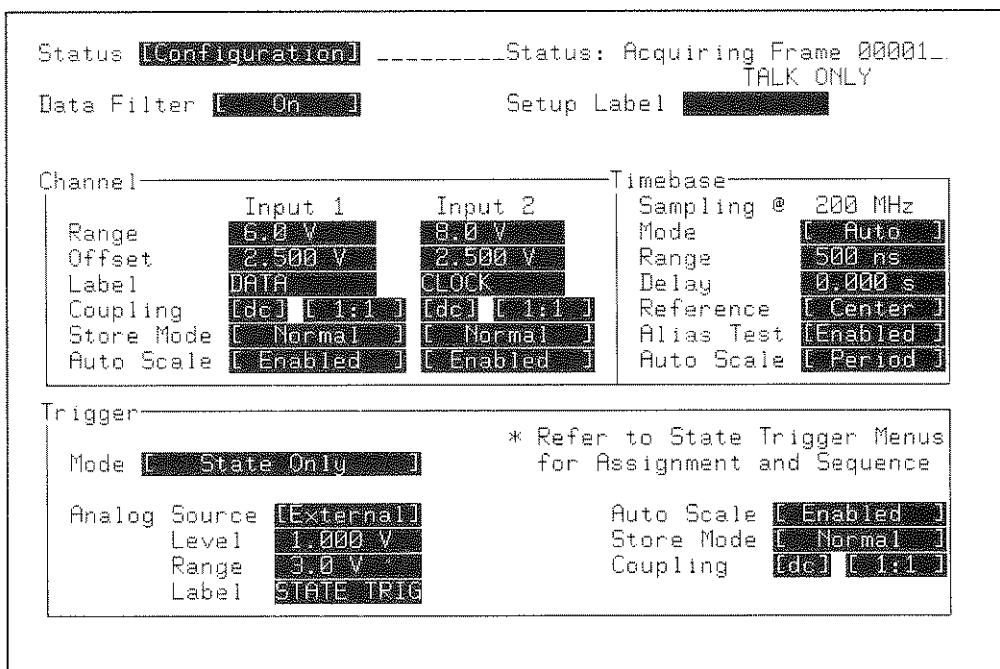

Figure 9-31. STATUS Configuration Menu
1. Configure the STATUS Configuration menu as shown in figure 9-31.
18. Reconfigure the menu shown in figure 9-31 Channel 1 and Channel 2 offset to -2.5 V.